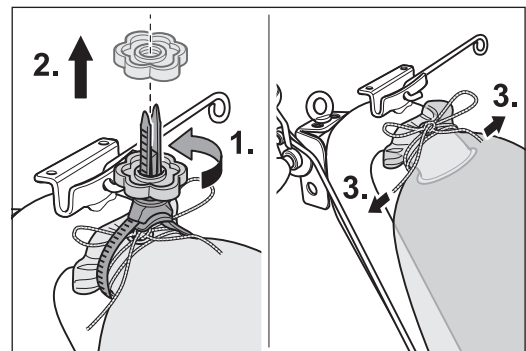

Fig. 36 Remove the MultiClip (1. and 2.) and open the cord at the dust bag (3.).
- 3 Remove the MultiClip (Fig. 36, 1. and 2.) and open the cord at the dust bag (Fig. 36, 3.).